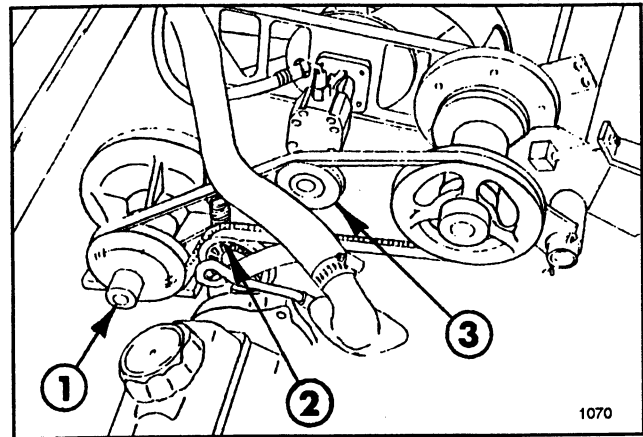

FIG. 4
11. Install the pump drive belt on the pulleys as shown in FIG. 4. After installation of the belt, loosely mount the backside idler pulley in the long slot on the idler pivot bracket using 3/8" x 2" carriage bolt, 3/4" spacer, hex nut, lockwasher and (2) flatwashers. With the belt on the topside of the idler pulley, slide the pulley up until all the slack is removed from the belt, then tighten the nut on the carriage bolt. To apply tension to the belt, place the inside idler pulley under the belt. See FIG. 4.